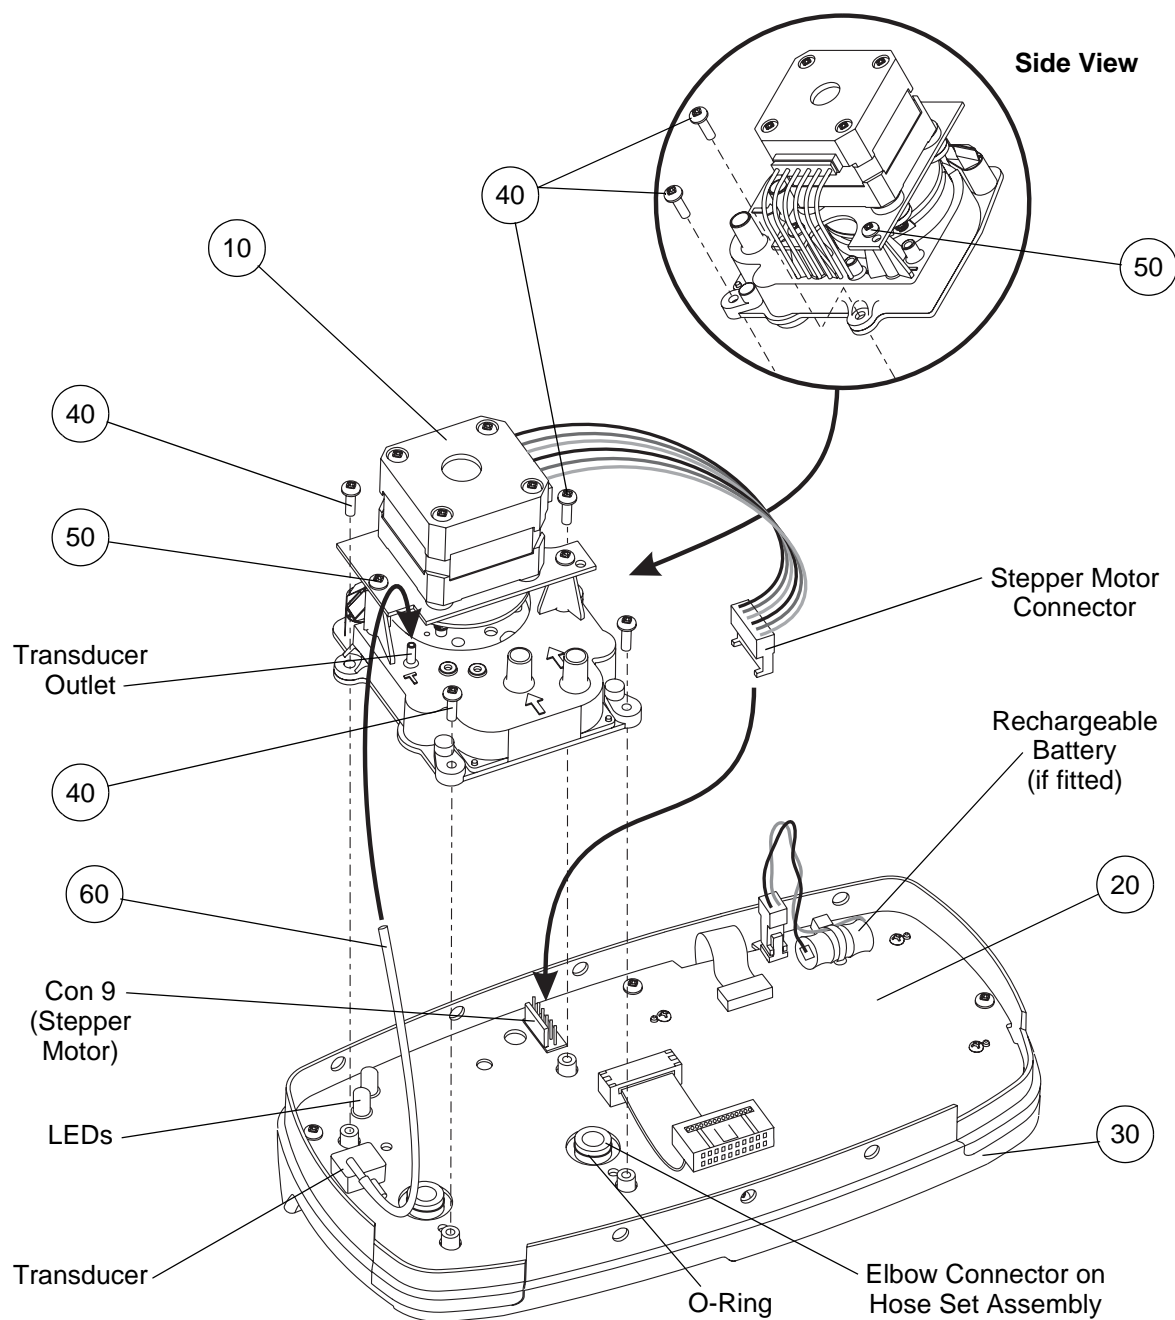

Figure 43 - Replacing the Motor and Manifold Assembly
- 18.2 Disconnect the stepper motor connector from the control PCB assembly (Fig 43, PCB Con 9).
- 18.3 Disconnect the small diameter transducer tube from the transducer on the motor and manifold assembly (Fig 43, Item 10).
- 18.4 Remove the four screws (Fig 43, Item 40), and carefully lift the motor and manifold assembly from the control PCB and top case assemblies (Fig 43, Items 20 and 30).
Note: *Do not loosen or remove the three screws (Fig 43, Item 50) which secure the stepper motor to the manifold.*